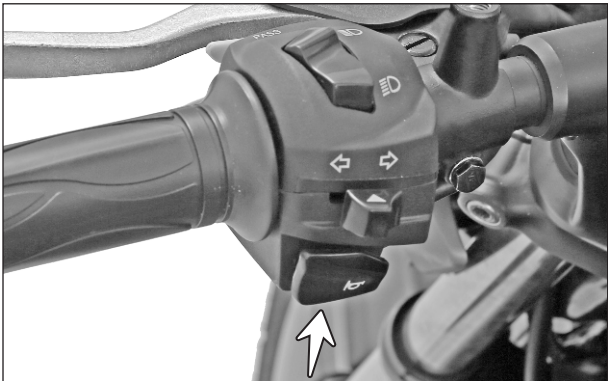

Fig. 5.25
- The horn switch is located on the switch assembly handle LH. (Fig. 5.25)